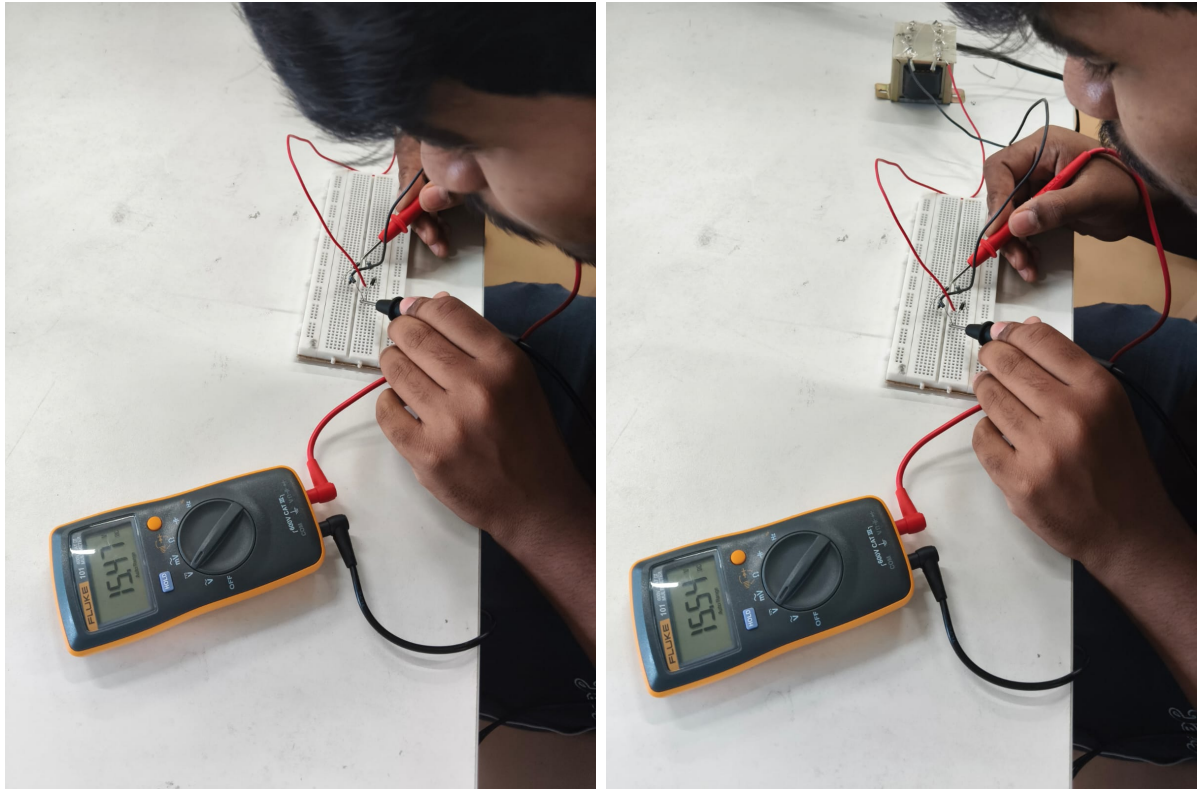

Figure 2: Enter Caption
0.2 Work Done(Figure: 2)
0.3 Observation: (Figure: 2)